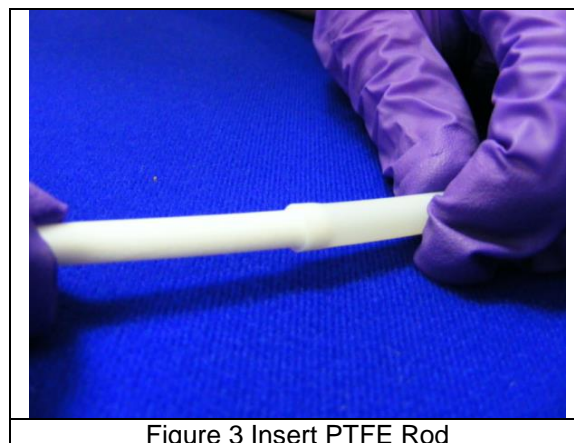

Figure 3 Insert PTFE Rod
- 4 Insert the PTFE rod into the tubing by 2cm (Figure 3).